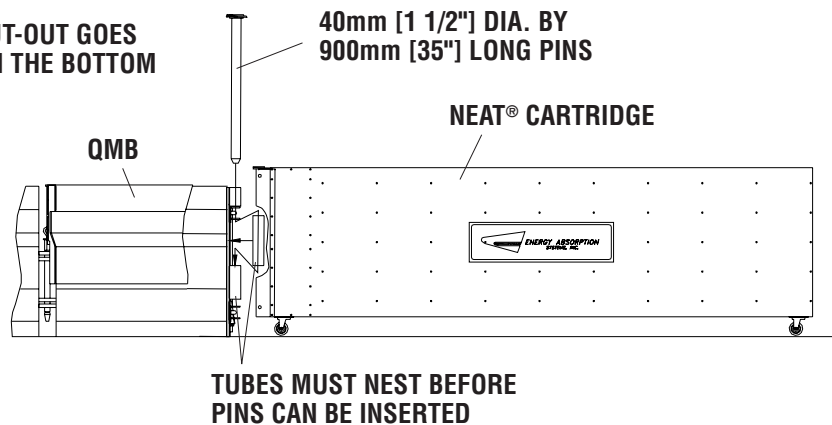

Figure 18
Step 9: Cartridge/Backup to Support Frame Attachment (See Figure 18)